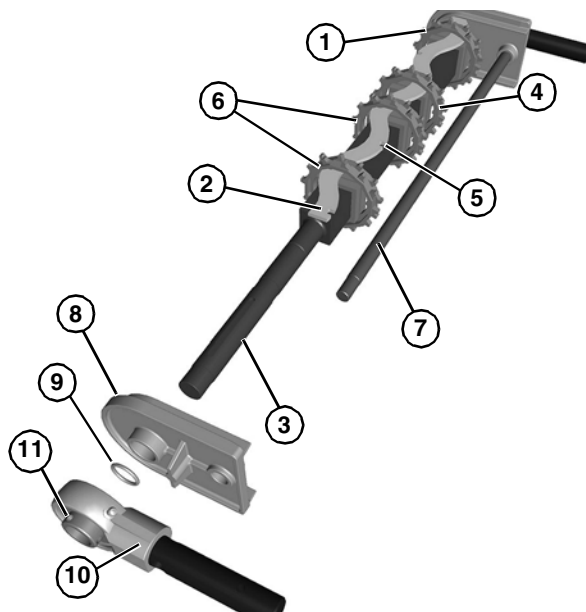

Figure 70
1. Assemble first sprocket (Figure 70, item 1) to the slots of alignment bar (Figure 70, item 2), and install assembly onto drive spindle (Figure 70, item 3).
2. Slide the remaining sprockets (Figure 70, item 4) onto drive spindle and align each sprocket with the notches (Figure 70, item 5) in the sprocket alignment bar. Be sure that at least two sprockets (Figure 70, item 6) are positioned such that they are on alternate opposing locations on the alignment bar.
3. Install pinch guard shaft (Figure 70, item 7).
4. Slide the tracking plate (Figure 70, item 8) onto the drive spindle and pinch guard shaft.
When installing tracking plate, be certain O-ring (Figure 70, item 9) is installed.
5. Slide the shaft assembly (Figure 70, item 10) onto the drive spindle and tighten set screws (Figure 70, item 11) on bearing.